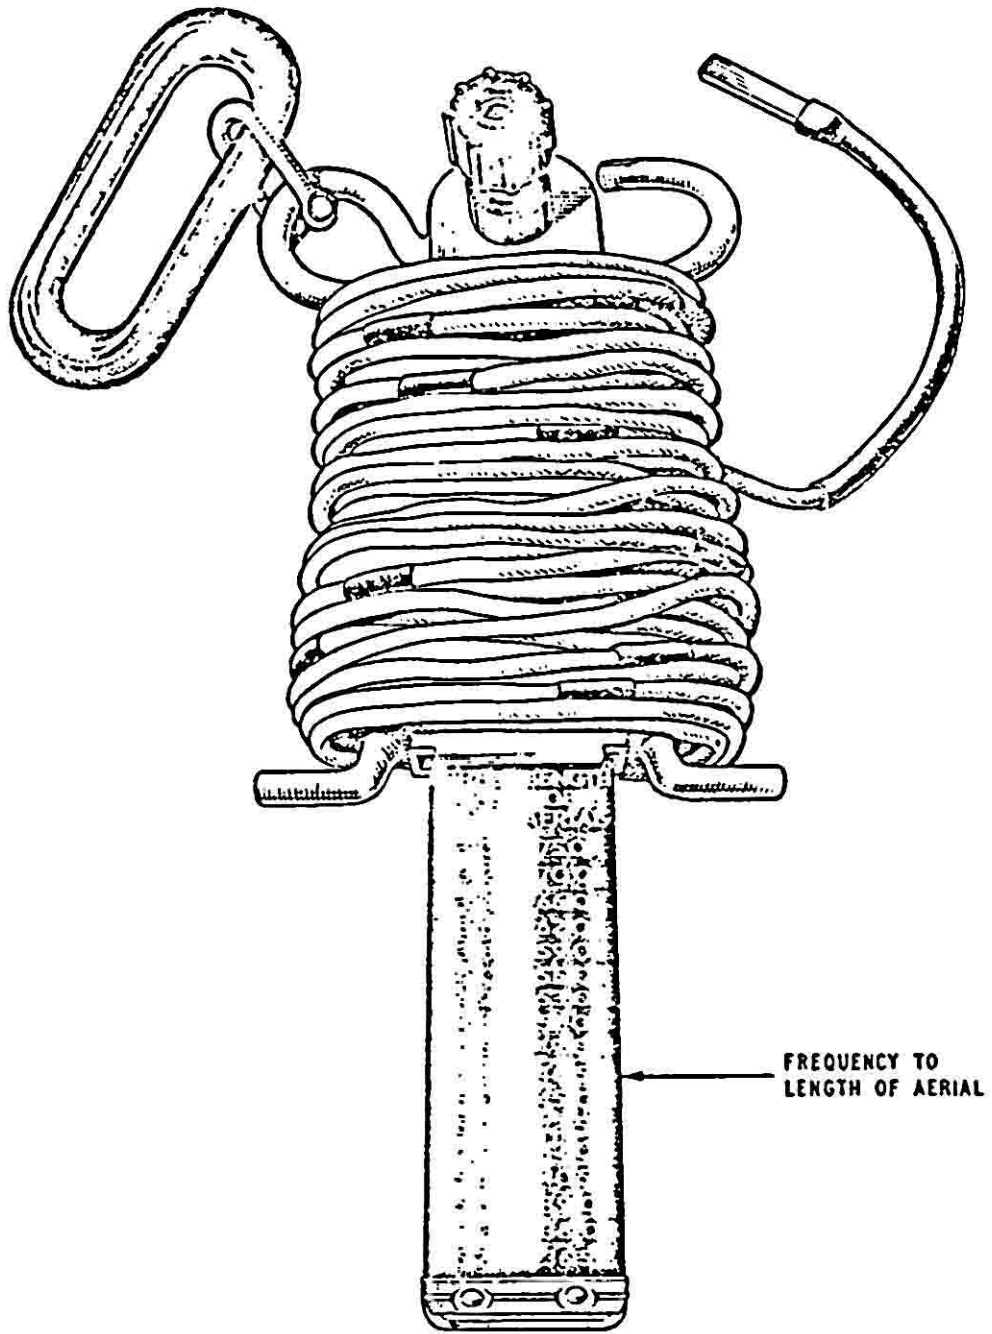

FIG.3 AERIAL ELEMENT, DIPOLE, 75 FEET
- 2.2 Pull out the "Frequency/Aerial Length" chart from one of the Aerial Elements, Dipole, 75-ft. and look up the length of aerial required for the ordered frequency. For example, if the ordered frequency is 3.6 Mc/s then the number opposite this frequency on the chart will be 62 (see fig. 3).